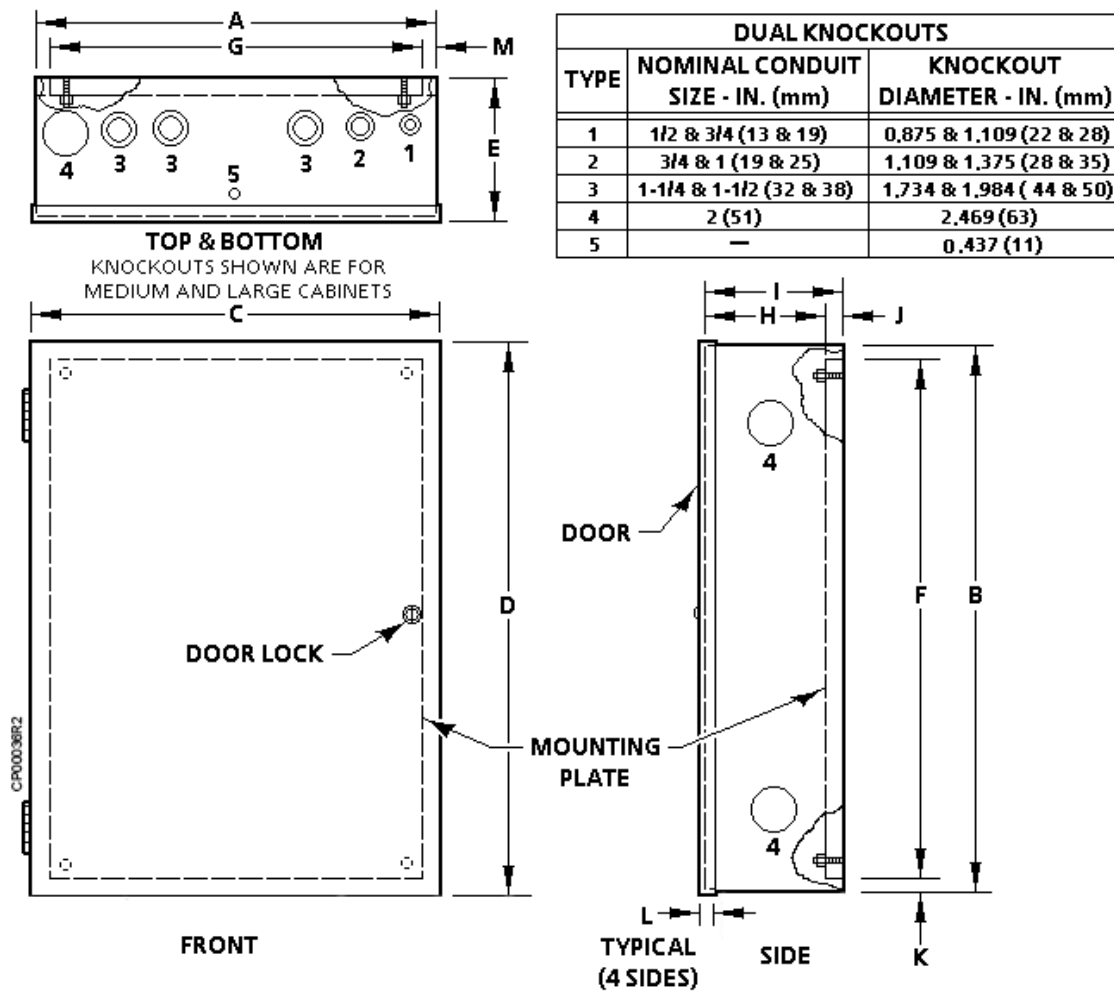

Figure 4. Cabinet Dimensions (See Table 5 and Table 6).
1. The space required for the controls mounted in the door or the mounting plate is shown in Table 4. Space available between the door and the mounting plate is shown in Figure 4, Table 5, and Table 6.
Table 6. Cabinet Assembly Dimensions (See Figures 4, 5, and 6).